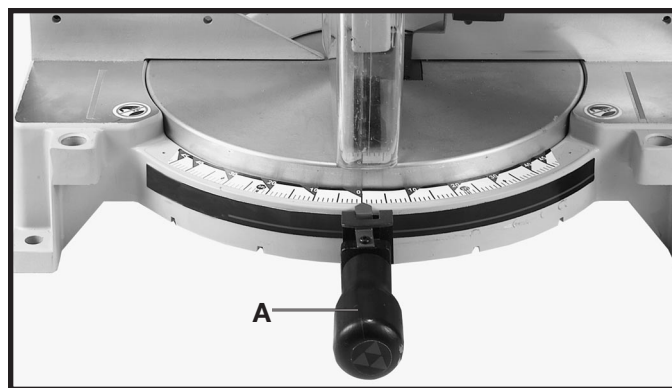

Fig. 5
2. Rotate table to the left until index stop engages with the 90 degree positive stop (Fig. 5). Tighten table lock handle (A).